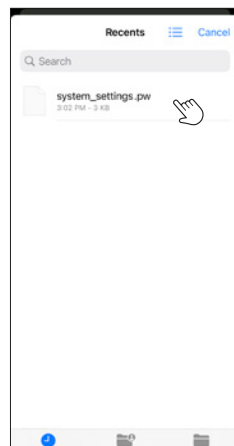

Figure 1
**Step 2:** Select the *System\_Settings.pw* backup file you wish to restore/import (Figure 1\*).